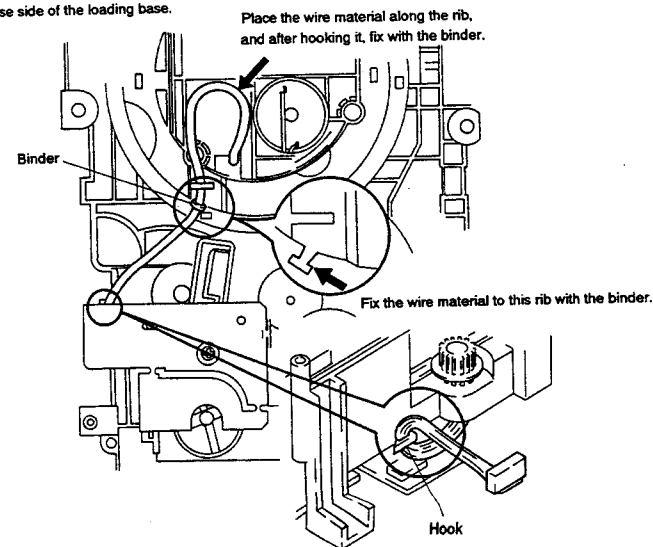

Fig. 2-17
- (1) Bend the wires as shown in Fig. 2-17.